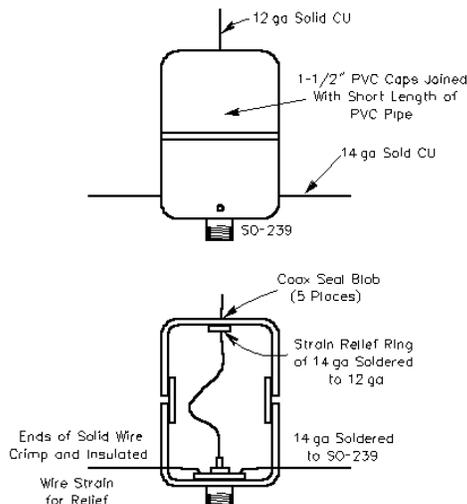

Fig 4—Bottom termination.
6. The termination scheme used at W1WEF at the bottom of each vertical is shown in **Figure 4**.